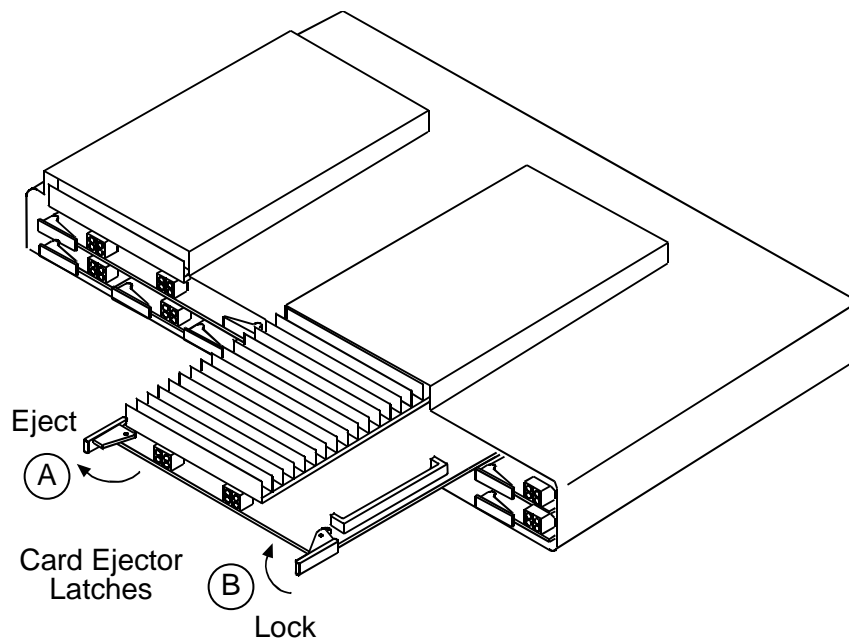

Figure 16-7. Installing and Removing Controller Card
NOTE: The example in Figure 16-7 shows installation and removal of Controller B.
3. Straighten card ejector latches (see A in Figure 16-7), position new Controller card in guide rails, and carefully slide into empty card slot.
4. Press card ejector latches in toward center of card (see B in Figure 16-7) until card connector mates with backplane connector.
1. On old standby Controller card, press ejector latches in toward outside of card until card connector releases with backplane connector (see Figure 16-7).